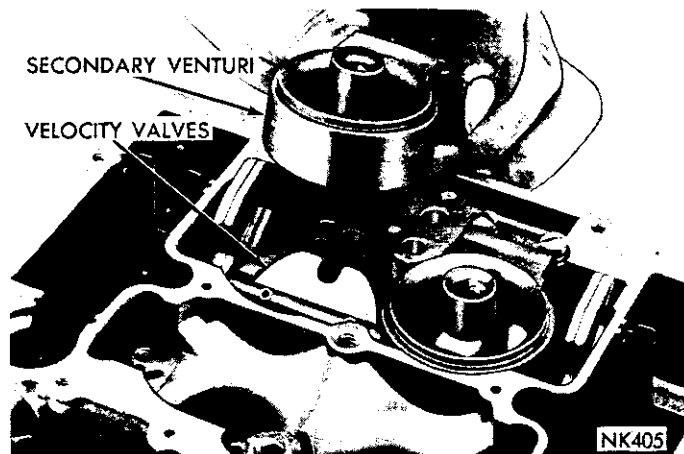
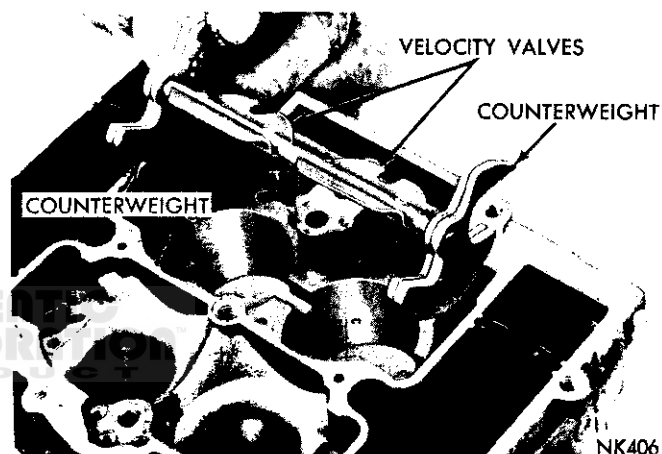

Fig. 6—Removing or Installing Secondary Venturi Cluster
Fig. 7—Removing or Installing Velocity Valves
(5) Remove screws that attach secondary venturi (choke and pump side) to main body. Lift secondary venturi assemblies straight up and away from body, (Fig. 6). Remove velocity valves (Fig. 7).
(6) Using Tool T-109-59, screw driver bit, remove accelerator pump intake check valve located inside fuel bowl, adjacent to accelerator pump cylinder.
(7) Remove screws that attach hot idle compensator valve to main body boss. Remove valve and gasket.